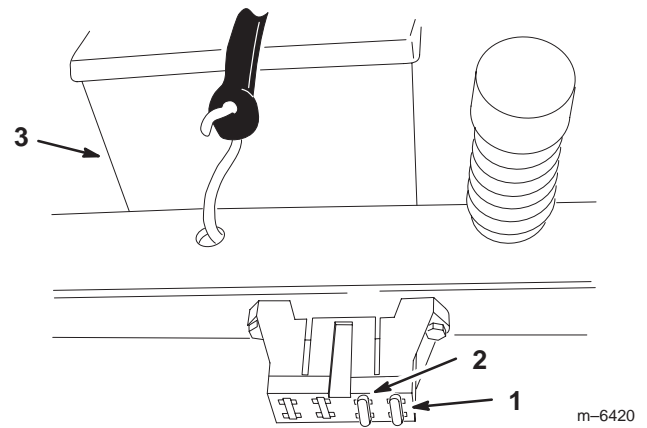

Figure 49
1. Raise the seat to gain access to the fuse holder (Fig. 49).
2. To replace a fuse, pull out on the fuse to remove it (Fig. 49).